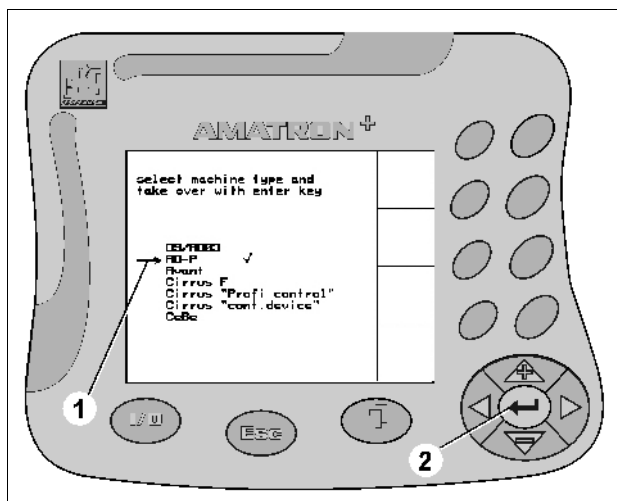

Fig. 15
- Position the cursor (Fig. 15/1) with  and .
-  Accept the entry (Fig. 15/2).
the start screen will show this message (fig. 15)